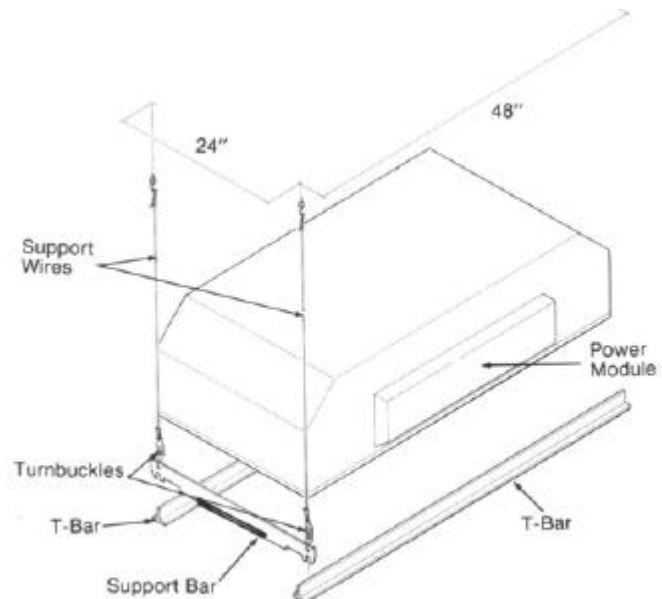

FIGURE 3
4. Unplug the power module from the air cleaner before attempting to complete removal. Unscrew and remove the power module (see FIGURE 3). Hint: Tilt the power module away from the air cleaner to facilitate removal.
1. Attach four 12-gauge, galvanized steel support wires to the true ceiling at the location shown in FIGURE 3. Twist each wire at least four times to provide safe support for the air cleaner. The free end of each wire should extend six inches or more below the bottom of the T-bars.
2. At the end of each opening, set a support bar across the T-bars. The “J” shaped portion of the support bars should be oriented so the hook side of the “J” is toward the opening (not toward the adjacent T bars). See FIGURE 3.